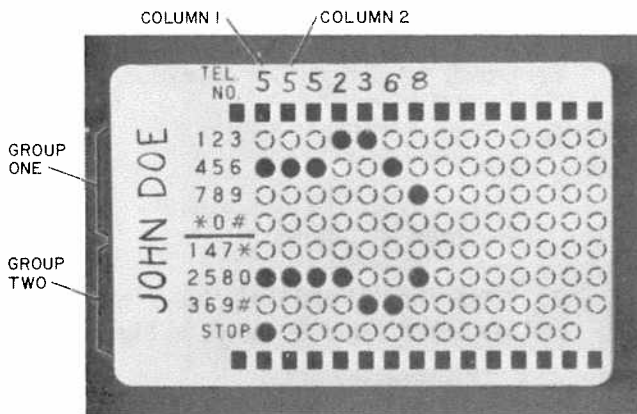

Fig. 3—Card Coded for 7-Digit Telephone Number
- (1) Write name and telephone number in spaces provided as shown in Fig. 3 and 4.
- (2) Convert exchange letters to numbers. For example: Use 2 for A, B, or C; 7 for P, R, or S; etc.
**Note:** There are two groups of numbers 1 through 0 on the card (Fig. 3).
- (3) In Fig. 3 the first digit of the telephone number is 5. In column 1, locate digit 5 in the first group of numbers and punch out the perforation with a pencil or ballpoint pen. In the same column, locate digit 5 in the second group of numbers and again punch out the perforation.
- (4) Repeat this procedure for each digit in the telephone number. The digit 0 must be punched out in each group of numbers just as any other digit.
- (5) Do not punch STOP following the last digit. (A stop is only used for certain operations requiring an interruption in the automatic dialing process.)